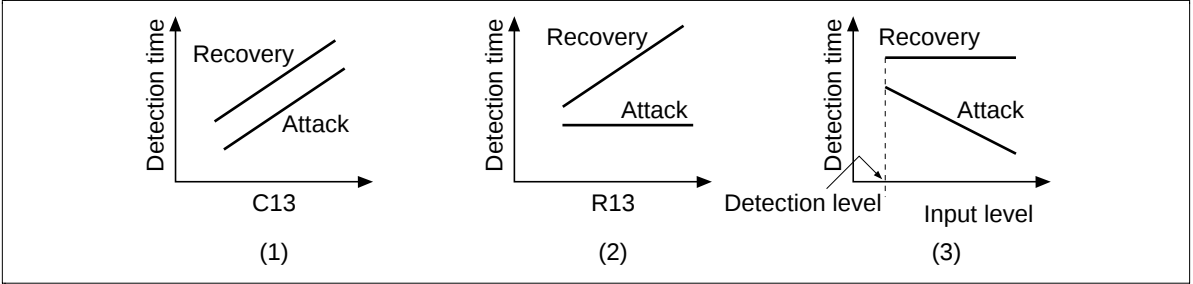

Figure 6 Function Characteristic of MS
Figure 6(1) generally shows that detection time is in proportion to value of capacitor C13. But, with Attack*2 and Recovery*3 the detection time differs exceptionally.
Like the figure 6(2), Recovery time is variably possible by value of resistor R13. But Attack time gets about fixed value. Attack time has dependence by input level. When a large signal is inputted, Attack time is short tendency.